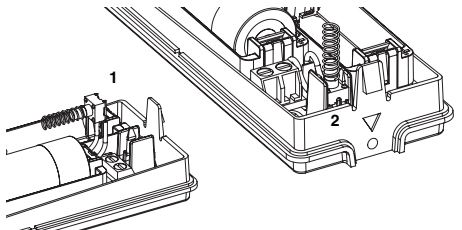

Figure 7. Installing the Tamper Switch
4. If using the reed switch, use the two remaining screws to mount the magnet so its arrow is aligned with the arrow on the sensor case (see Figure 7).
5. Install the tamper switch as shown (see Figure 7).